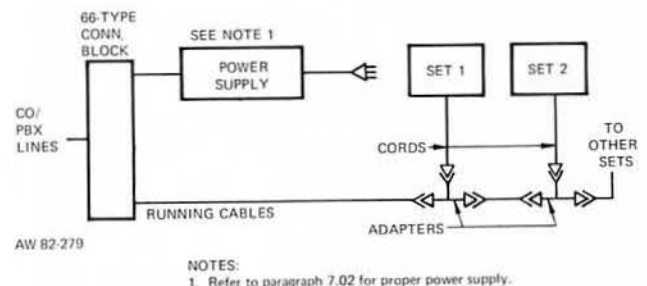

Figure 2: Optional Arrangements for 3-Line Telephones
7.02 A different power supply is recommended for each arrangement. An ITT 41-101 Power Transformer (9 VAC output) is recommended for the first arrangement. A commercial power supply with outputs of 9 VDC, 10 VAC, and a signaling voltage (Lorain T-16A or equivalent) is recommended for the second arrangement. A key system type power supply is recommended for the third arrangement, which uses a 307A rotary, dial-selective intercom circuit (or other dial-selective intercom circuit) equipped for Tel-Touch operation. The power requirements for a 307A circuit are -24 VDC, 10 VAC, and if ringing voltage is required, 105 VAC, 30 Hz. (See Figure 2.)